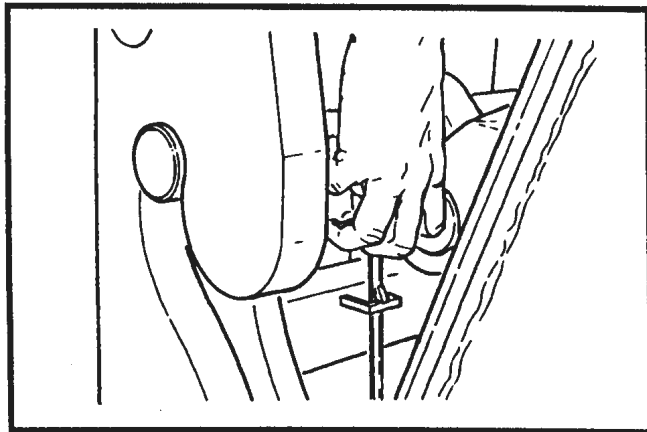

Figure 15-1. Quick-attach D-handle
2. Pull the red quick-attach D-handle straight up until it can be locked in place on its bracket. This will retract the lower quick-attach mounting pins. Refer to Figures 15-1 and 15-2.